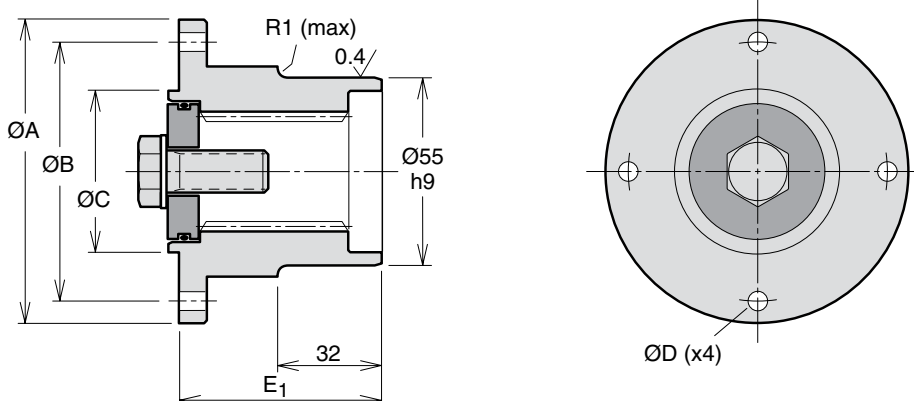

Fig. 2. DIN 90 (370 7423)
Designation	DIN 90 (fig. 2)
1. Series F1 and T1 (fig. 2)